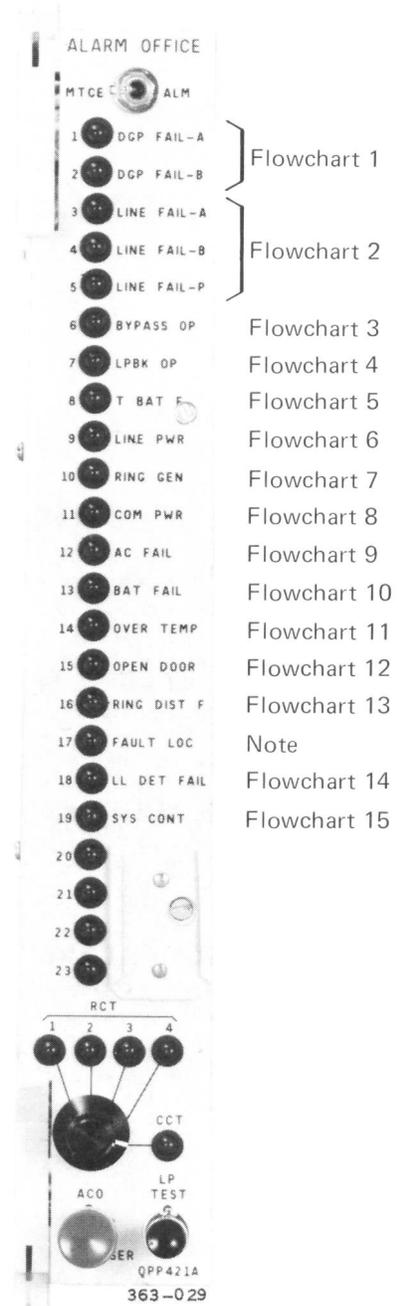
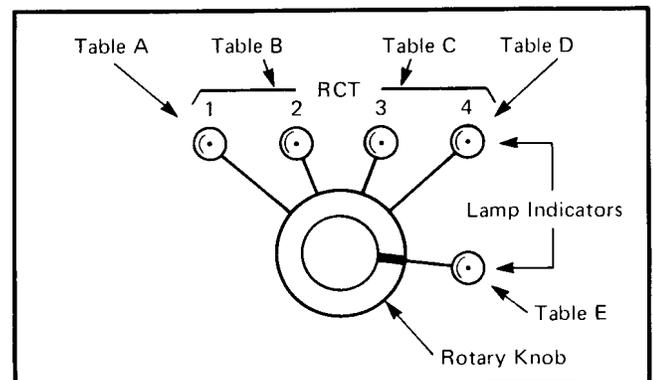

Fig. 1 — QPP421 ALARM OFFICE — Alarm Analysis
Fig. 2 — Maintenance Table Selection
- (1) Momentarily press and release the ACO button to silence the office alarms.
- (2) Turn the RCT/CCT selector switch to the CCT or the RCT position indicated by a lighted Light Emitting Diode (LED). If more than one RCT indicator is lit, set the switch to the lowest numbered RCT indicated by a lighted LED.
- (3) Observe the alarm(s) displayed on the unit, and go to the appropriate flowchart as shown in Fig. 1. If more than one indicator is lit, go to the flowchart indicated by the first lighted LED from the top of the display.
- (4) Locate and correct the fault.
- (5) Simultaneously press and release the RESTART and RESTART ARM buttons on each system controller, in turn, to check for any new fault conditions.
- (6) Ensure that no other alarm(s) are present at the QPP421 ALARM OFFICE circuit pack.
- (1) Press the ACO button to turn off the audible and visual office alarms and the top-of-bay lamp.
- (2) Switch the MTCE/ALM switch to the MTCE position.
- (3) Turn the RCT/CCT selector switch to the numbered position indicated by a lighted LED. If more than one LED is lit, set the switch to the lowest number indicated by a lighted LED.
- (4) Refer to Table A, B, C, D, or E, as indicated by the selector switch (see Fig. 2). In the table, locate the maintenance action number corresponding to the first lighted alarm lamp number on the QPP421 ALARM OFFICE display (Fig. 1), and perform the steps listed under the ACTION column.